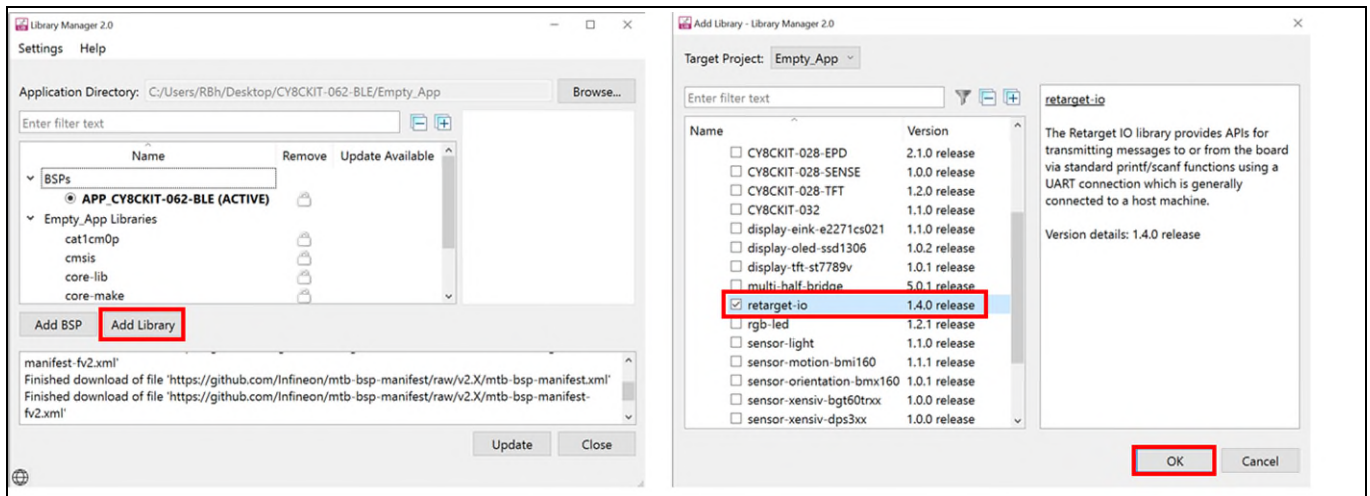

Figure 15 Add the retarget-io middleware
- In this step, you will add the retarget-io middleware to redirect standard input and output streams to the UART configured by the BSP. The initialization of the middleware will be done in `main.c`. After clicking on **Add Library**, select **Peripheral > retarget-io** (see Figure 15 for this option).